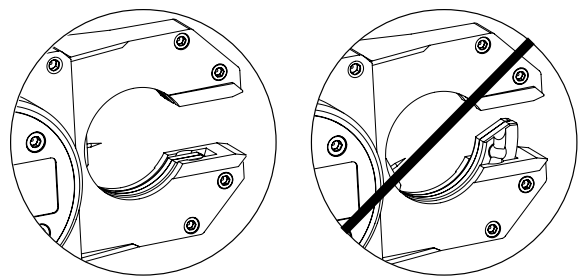

Figure 39 Rotor Position
3. Verify proper rotor position. See Figure 39.